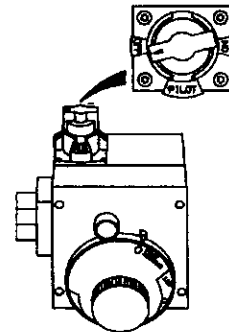

Figure 6
4. Turn gas control knob clockwise (↻) to "OFF" position. Knob cannot be turned from "PILOT" to "OFF" unless knob is depressed slightly. **DO NOT FORCE.** (Figure 6, page 17)
5. Wait five (5) minutes to clear out any gas. If you then smell gas, STOP! Follow "B" in the safety information above on this label. If you don't smell gas, go to the next step.
9. Push in control knob all the way and hold down. Immediately light the pilot with a match. Continue to hold control knob in for about one (1) minute after the pilot is lit. Release knob and it will pop back up. Pilot should remain lit. If it goes out, repeat steps 3 through 8.
- If the pilot will not stay lit after several tries, depress and turn the gas control knob clockwise (↻) to "OFF" and call your service technician or gas supplier. (Figure 6, page 17)